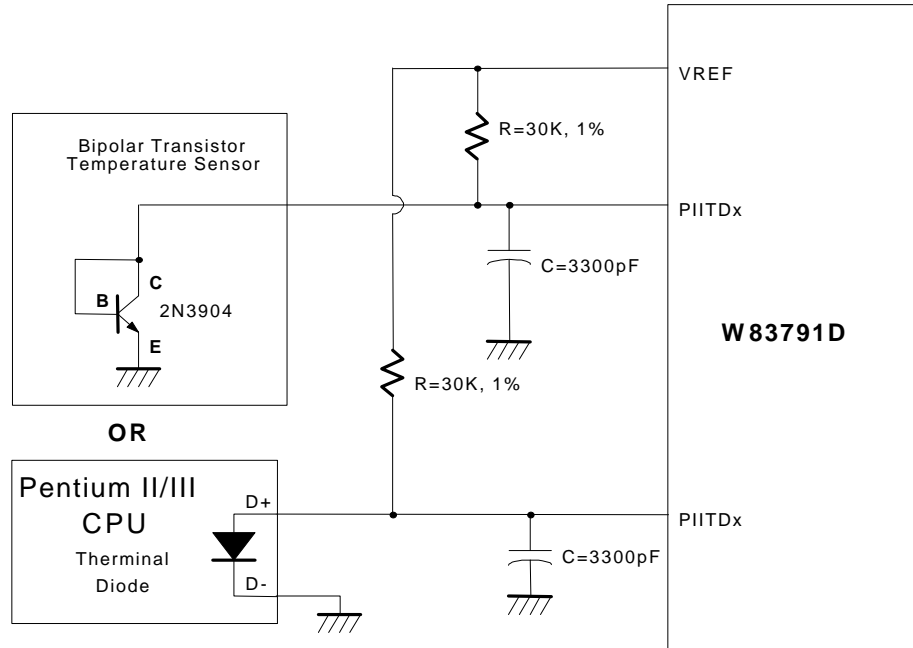

Figure 11.
The negative voltage should be connected to two series resistors and a positive voltage VREF (equal to 3.6V). In the Figure 11, the voltage V3 and V4 are two negative voltages and are -12V and -5V respectively. The voltage V3 is connected to two serial resistors as well as another positive terminal VREF. Therefore, the voltage node N12VIN would be a positive voltage if the scale of the two serial resistors are carefully selected. It is recommended from Winbond that the scale of the two serial resistors are R5=232K ohms and R6=56K ohm. The input voltage of node -12VIN can be calculated by the following equation.
The W83791D can connect three thermistors to measure three different environmental temperatures. The specification of thermistor should be considered to (1)  $\beta$  value is 3435K, (2) resistor value is 10K ohms at 25°C. In the Figure 11, the themistor is connected by a serial resistor with 10K Ohms(1% error), then connect to VREF (Pin 37).
The W83791D can alternate the thermistor to Pentium II/IIITM thermal diode interface or transistor 2N3904 and the circuit connection is shown as Figure 11. The pin of Pentium II/IIITM D- is connected to power supply ground (GND) and the pin D+ is connected to pin PIITDx in the W83791D. The resistor R=30K ohms should be connected to VREF to supply the diode bias current and the bypass capacitor C=3300pF should be added to filter the high frequency noise. The transistor 2N3904 should be connected to a form with a diode, that is, the Base (B) and Collector (C) in the 2N3904 should be tied together to act as a thermal diode.